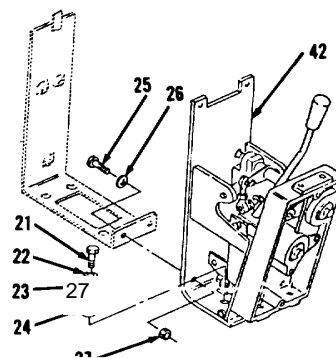

Figure 5-3.
9. Remove washer (17), nut (18), washer (19) and nut (20).
10. Remove two bolts (21), washers (22), spacers (23) and mountings (24) from support (42, Figure 5-3).
11. Remove two bolts (25), washers (26) and nuts (27).